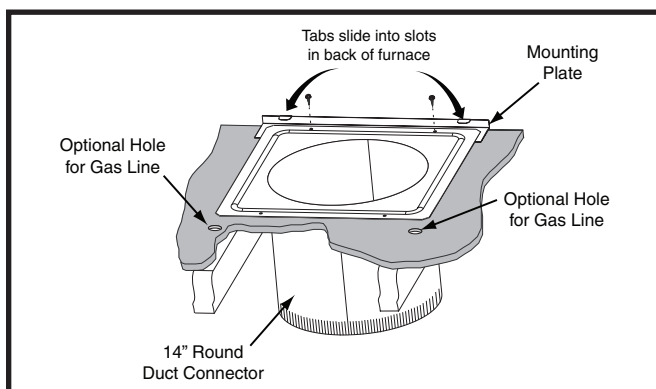

Figure 16. Round Duct Connector
2. Install the mounting plate (Figure 16) under the back side of the duct connector. **NOTE:** Make sure the screw holes are aligned in both components.
4. Secure front with one (1) fastener at each corner (Figures 16 or 17).